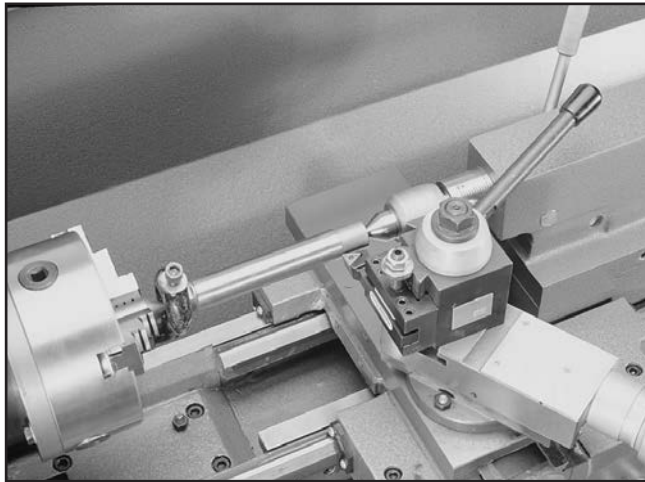

Figure 30. Example of bar stock mounted between centers.
5. Attach a lathe dog on the spindle end of the bar stock from **Step 2**, then mount the workpiece between the centers (see **Figure 30** for an example).